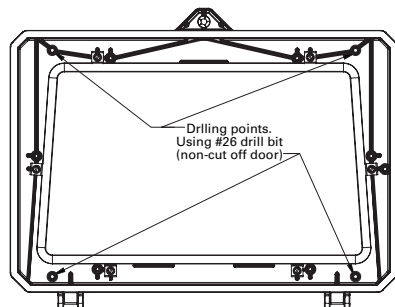
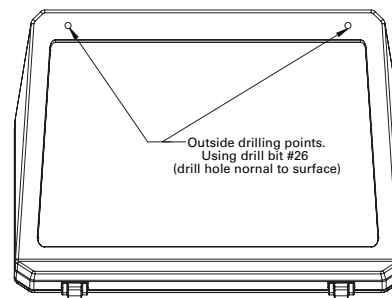
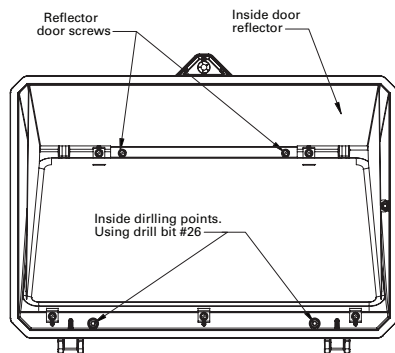

FIG. 1
FIG. 3
FIG. 2
FIELD INSTALLATION PROTECTIVE WIRE GUARD DOOR (FIG. 1 thru 4)
3. Using drill bit #26, drill four (4) thru-holes from inside the door and perpendicular to door's exterior surface **FIG. 1**. For FCO door **FIG. 2**, drill two (2) holes on the inside of door and two (2) holes on the outside of door **FIG. 3**. Do not drill through door reflector. To avoid damage, remove door reflector before drilling.